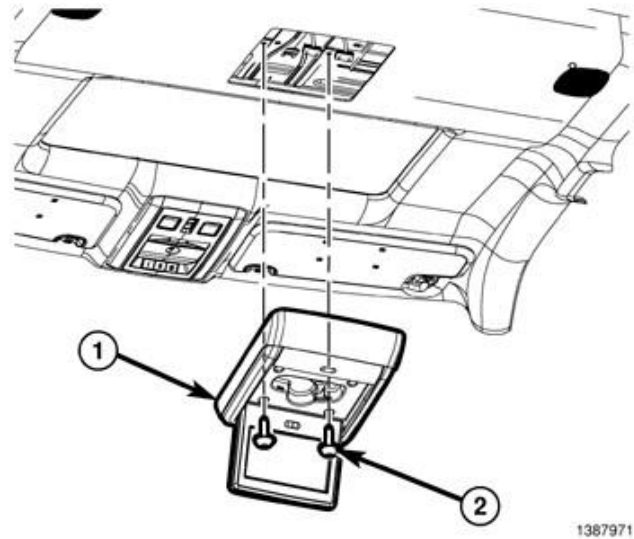
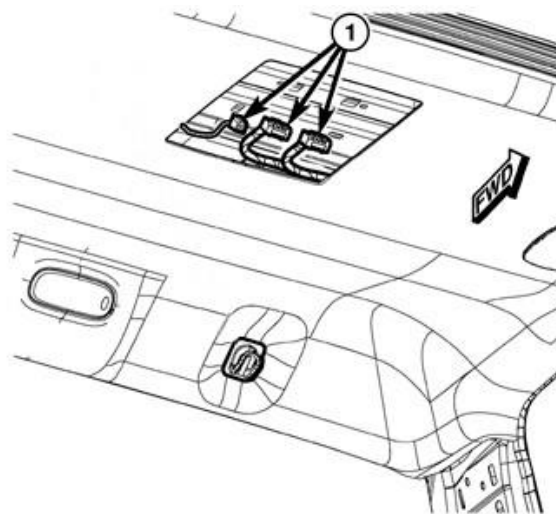

Figure 76 – Rear Seat DVD Monitor
Figure 77 – DVD Monitor Electrical Connectors
18. If equipped with DVD monitor, remove the screws (2) and separate the monitor (1) from the roof (Figure 76).
19. If equipped with DVD monitor, disconnect the electrical connectors (1) (Figure 77).
45. If equipped with DVD monitor, connect the DVD monitor electrical connectors (1) (Figure 77). Position the DVD monitor to the roof then install and tighten the screws (2) (Figure 76).